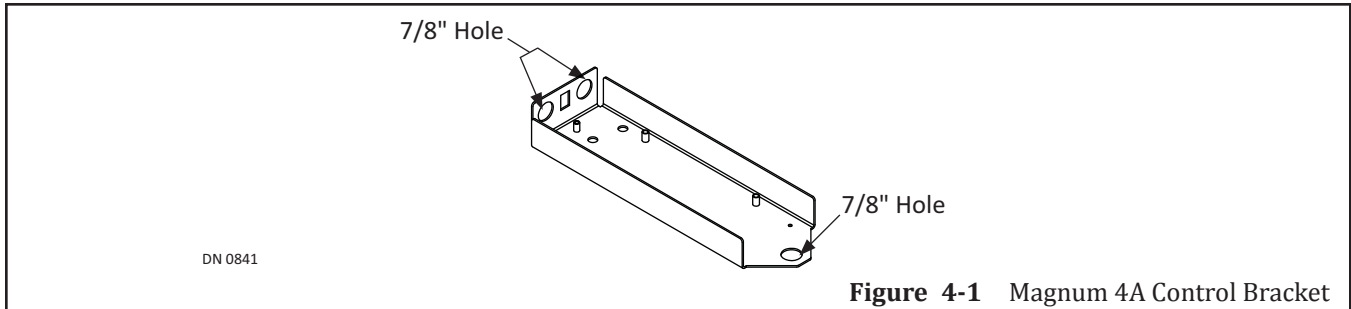

Figure 4-1 Magnum 4A Control Bracket
The Magnum 4A Control Bracket has (3) 7/8 inch Holes that can be used to secure a Cable Clamp or Conduit. Please see Figure 4-1.